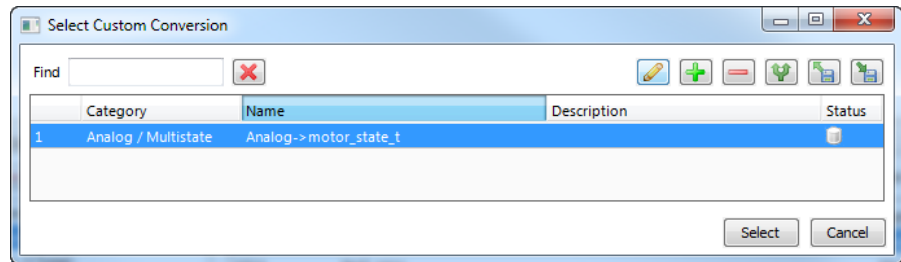

Figure 163: Choose a custom conversion.
6. To add a new conversion to this item, click on the button. A dialog opens, which displays the matching adaptors already available in the library as shown in Figure 163.